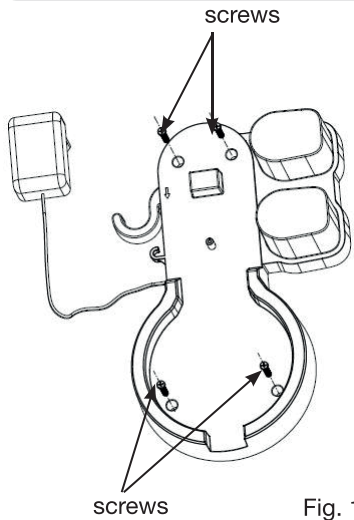

Fig. 1
1. Place the base against the wall in the desired location near an electrical outlet (Fig. 1). Make sure that the height of the base matches the height of the vacuum cleaner.